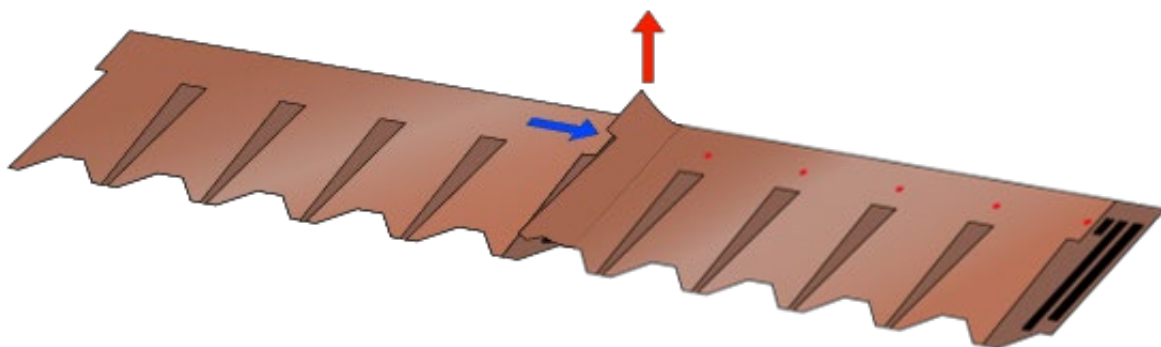
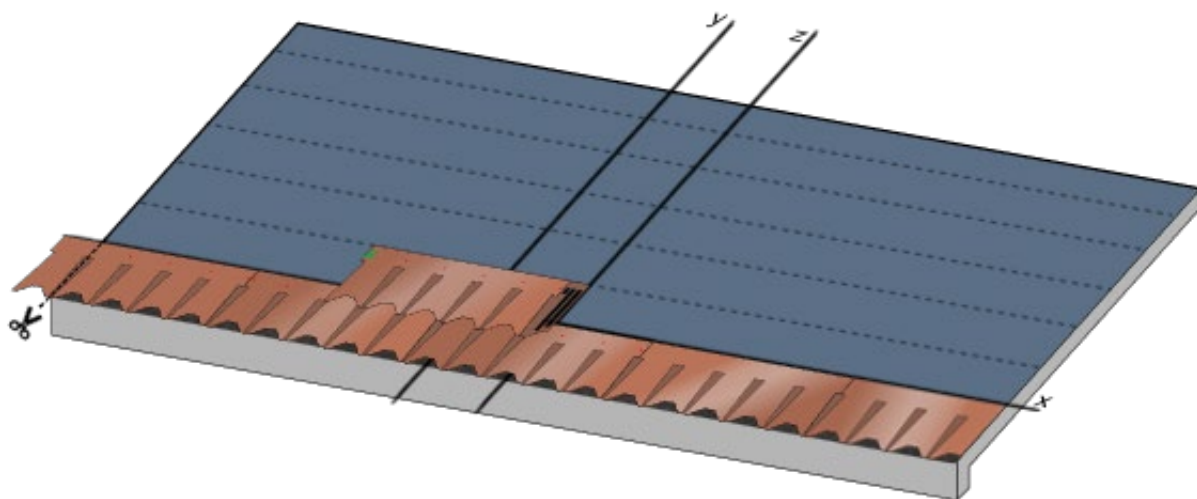

Fig. 10 – Installation of the second part of the first row of Master Coppo shingle
Fig. 12 - Installation of the second row of Master Coppo shingle
- Proceed with the installation of the second row of shingles: align the right edge of the first shingle of the second row with the vertical line **z**, and align the upper edge of the shingle with the horizontal line, 24.5 cm away from **x** Fig. 12. As before, fix the shingle with 5 nails. Proceed with the installation of the shingles towards the right, until the edge of the pitch, and cut off the excess part; then proceed with the installation of the shingles towards the left, ensuring to fix the first shingle with an additional nail once it is inserted under the new shingle. Fig. 10.